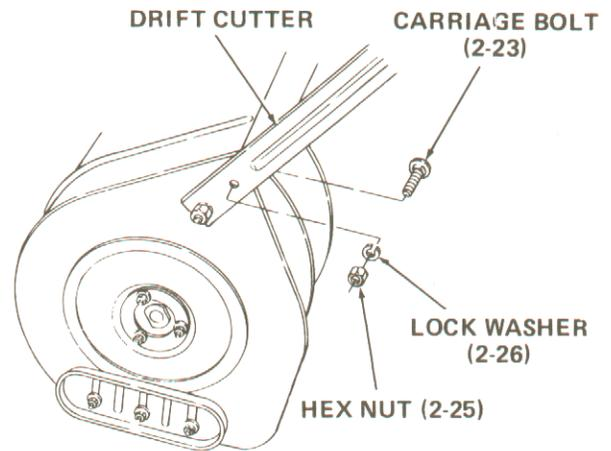

Figure 41
- 14. Position drift cutters on snow thrower housing as follows. Refer to Figure 41.
- b. Turn and place the drift cutters in position as shown in Figure 41. Secure with hardware removed in step 14a, carriage bolts (2-23)